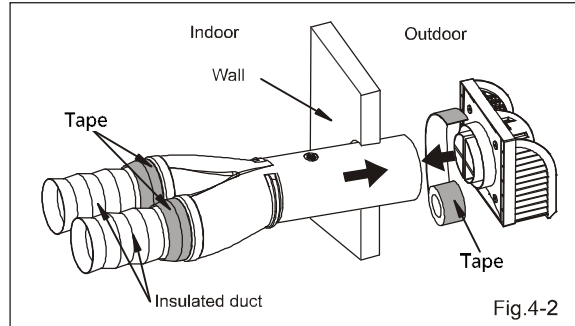

Fig.4-2
(1) Panasonic recommends the use of the optional Wall Cap (Model: FV-WC04VE1) which is easy to install with one wall penetration and keeps the airstreams separate to minimize short-circuiting. (Fig.4-2~5)